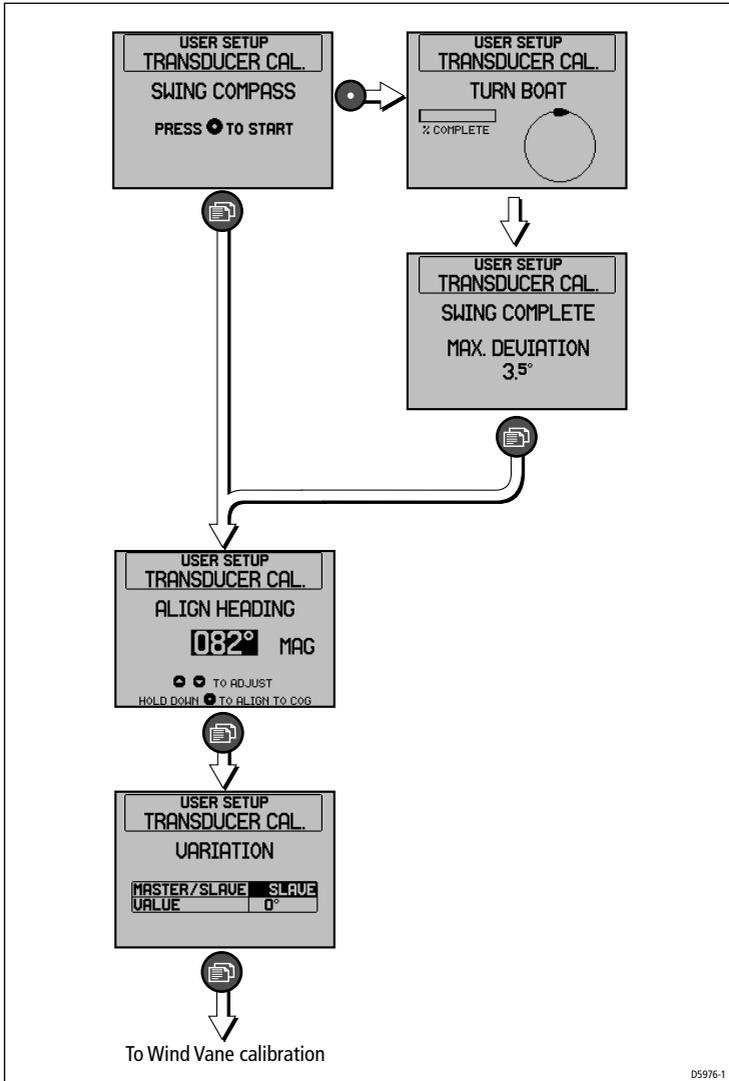

Figure 2-22: Compass calibration (Graphic Display)
The compass calibration procedure is summarized in *Figure 2-22*.
To correct for magnetic deviation, ensure the SWING COMPASS page (see *Figure 2-22*) is displayed, then:
1. Press the  button to display the TURN BOAT page (see *Figure 2-22*).
1. Select the ALIGN HEADING page (see *Figure 2-22*).
1. Select the SYSTEM VARIATION page (see *Figure 2-22*).